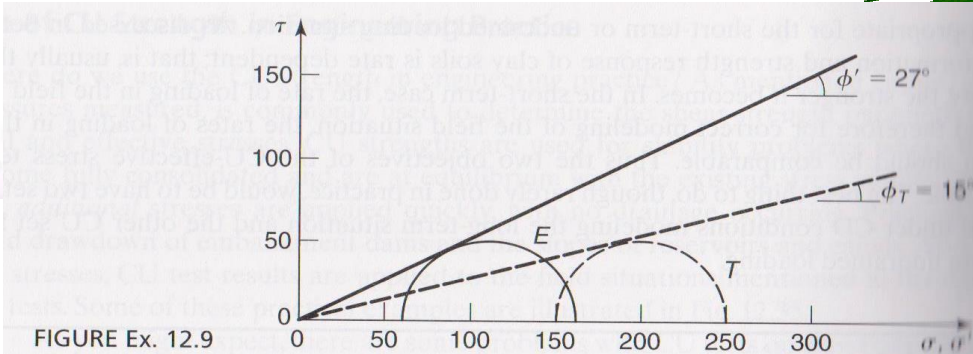

FIGURE Ex. 12.9
- iii. For the graphical solution, we need to plot the total and effective Mohr circles, and to do this we need to calculate σ_{1f} , σ'_{1f} , and σ'_{3f} . The centers of the circles are at (200, 0) for total stresses and at (112, 0) for effective stresses. The graphical solution including the failure envelopes is shown in Fig. Ex. 12.9.